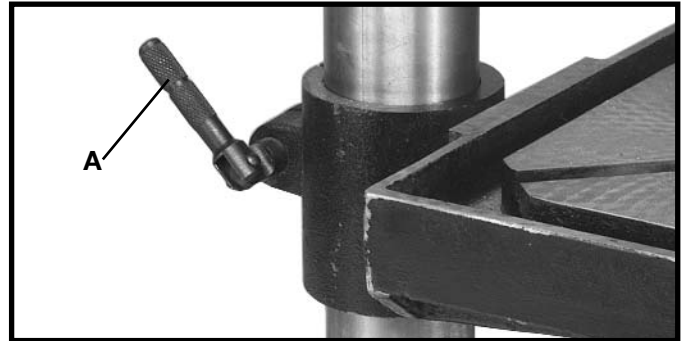
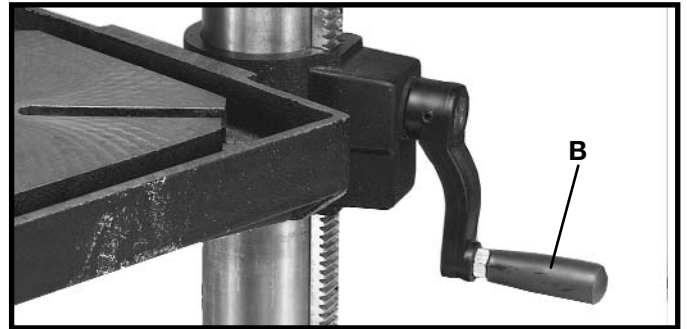

Fig. 19
Fig. 20
1. The table can be raised or lowered on the drill press column by loosening the table clamp (A) Fig. 19, and turning the table raising and lowering handle (B) Fig. 20. After the table is at the desired height, tighten clamp (A) Fig. 19. **NOTE:** Final positioning of the drill press table should always be from the bottom to the up position.
2. The table can be rotated 360 degrees on the column by loosening clamp (A) Fig. 19, rotate table to desired position and tighten clamp (A).